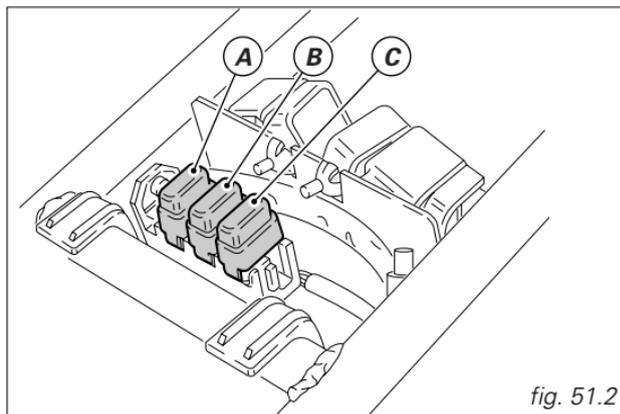

fig. 51.2
Three fuses (fig. 51.2) placed behind the control unit protect the relays of the injection system. Their ratings are: 7.5 A (A); 20 A (B); 5 A (C).